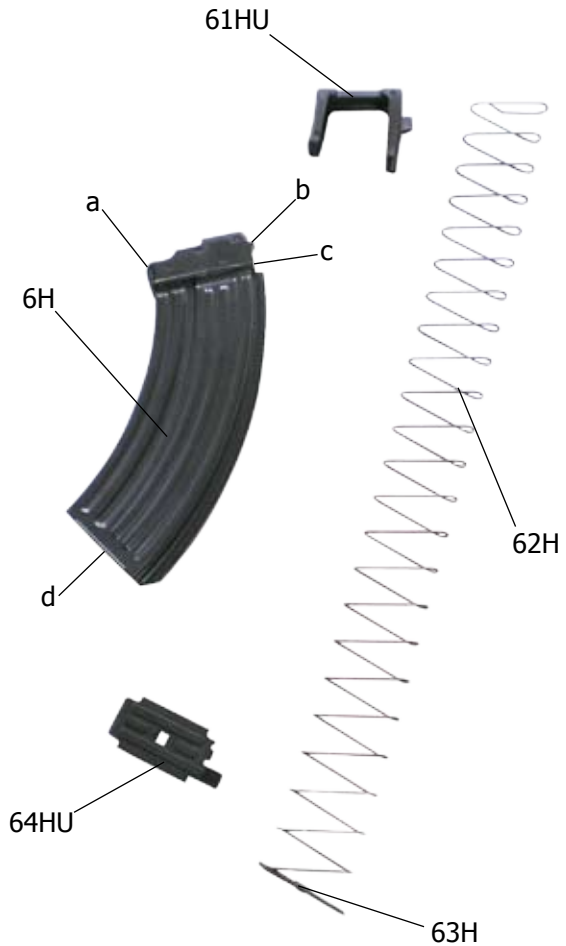

Fig. 23 Magazine /disassembled/
1. Magazine 6H (Fig. 23) is designed for continuous loading of the rifle with cartridges during firing. It is of an arched shape and takes 30 cartridges. It consists of magazine body 6H, magazine follower 61HU with magazine spring 62H, magazine safety 63H and magazine floor plate 64HU.